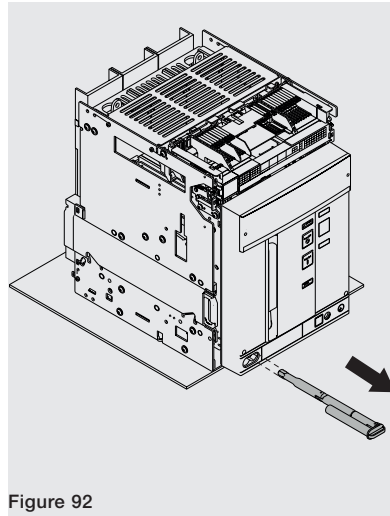

Figure 92
8. Extract the disconnection crank from its housing See Figure 92.